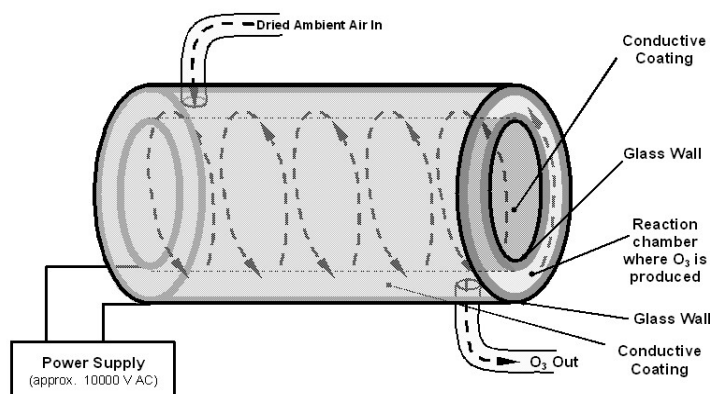

Figure 6-7. Ozone Generator Principle
The analyzer uses a dual-dielectric, Corona Discharge (CD) tube for creating its O₃, which is capable of producing high concentrations of ozone efficiently and with low excess heat (see Figure 6-7). The primary component of the generator is a glass tube with hollow walls of which the outermost and innermost surfaces are coated with electrically conductive material.